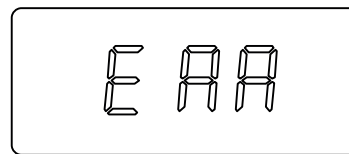

Fig.8
- After returning to run mode, if the installer wants to reset the service period or the shutdown programmer or disable the service interval function, long press the “+” and “-” button simultaneously for 5 seconds again to enter the service interval function mode setting and input the preset PIN code. If the code is incorrect, an error message will be displayed as Fig. 8. After resetting the parameters, press SET button to save the setting and return to run mode.